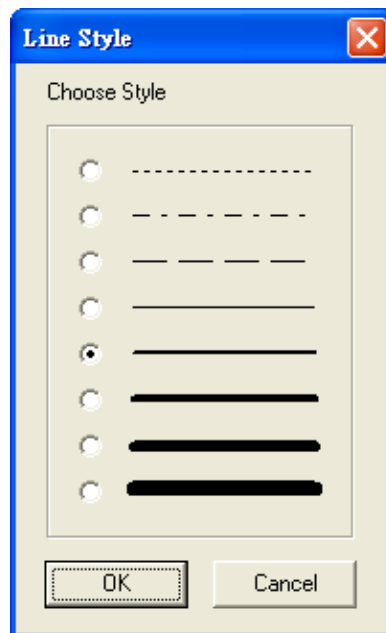

Fig. 3-10 Choose line styles
- ⊕ Line Style  : Choose line style by clicking “Line style” button and it will pop up(Fig3-10) dialog box.